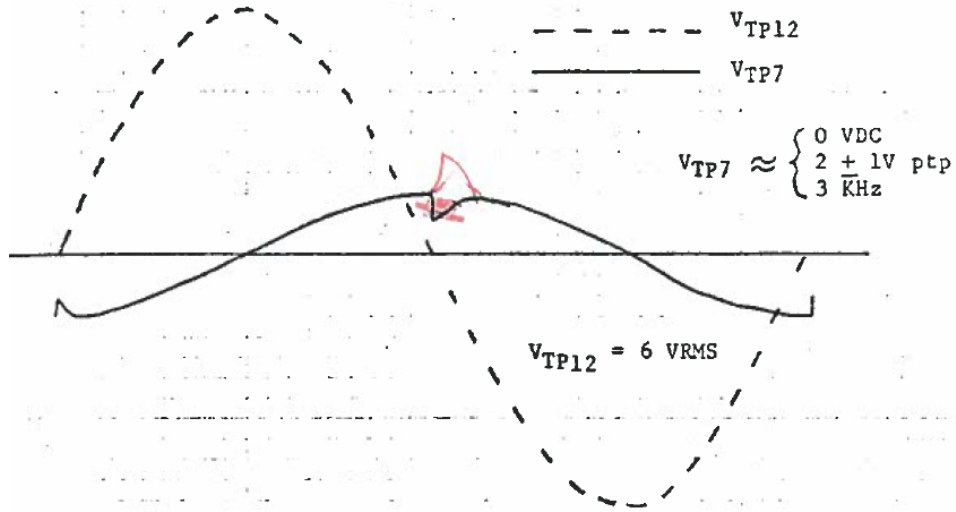

FIGURE 4: V_{TP7} - Transducer fully extended
6.1.29 Using a scope verify the wave forms in figures 4 and 5.